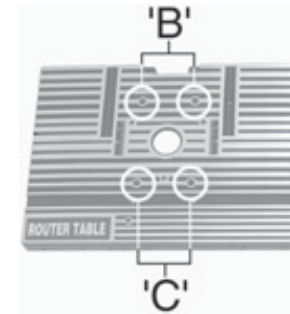
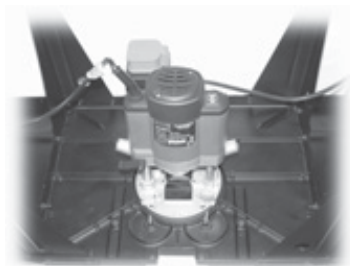

Fig. 4
Fig. 11
7. Insert two 50mm long coach bolts into holes 'B' from the top of the table. Fig. 4
5.2 Place the router in position on the underside of the table as central as possible, see Fig. 11. Insert two coach bolts into holes 'C' fig. 4 from the table top, now underneath.
Once the table is centralised on the baseboard, carefully, ensuring the table doesn't move, mark the four holes (X) to be drilled, using the table feet as a template Fig. 4.